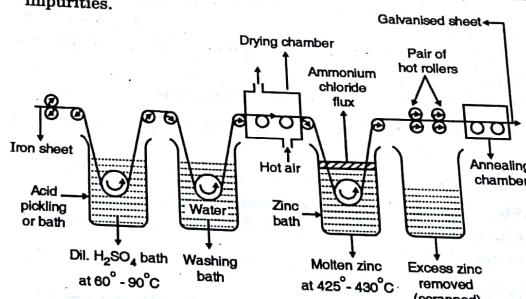

Fig. 1.7.1 : Galvanising of iron sheet by hot dipping
- This is done by passing the base metal through the flux before dipping into the molten mass of coating metal. This is shown in Fig. 1.7.1.